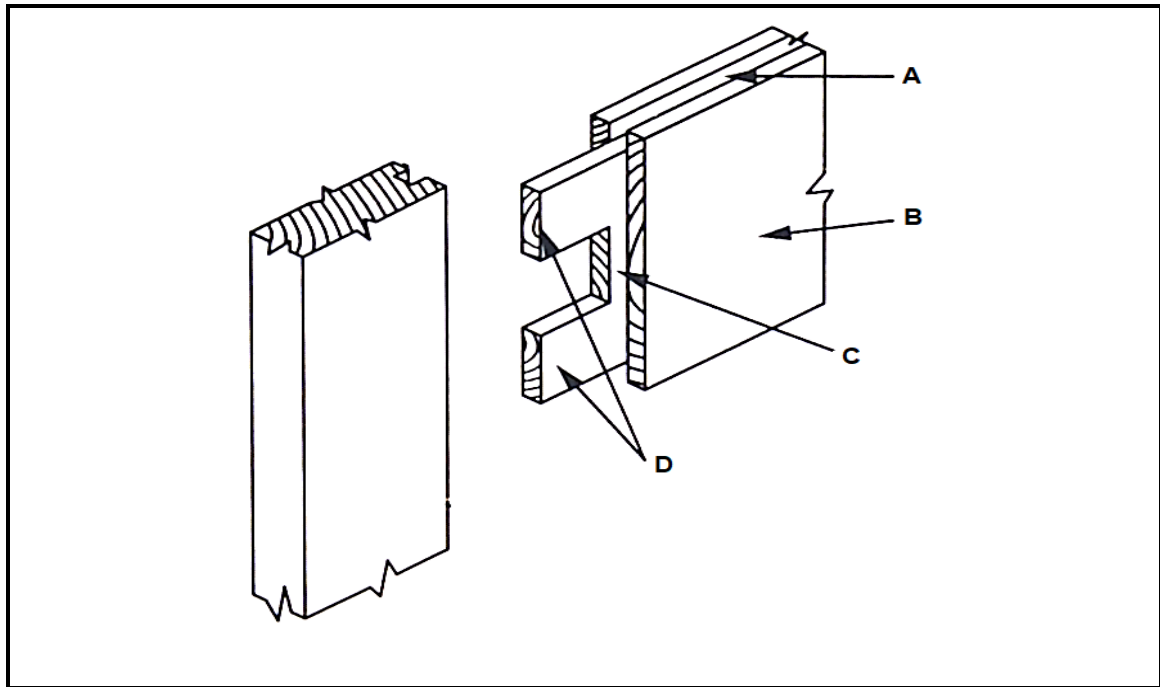

FIGURE 4.1
4.1 FIGURE 4.1 below shows a joint-to-joint member/part of a door. Study the drawing and answer the questions that follow.